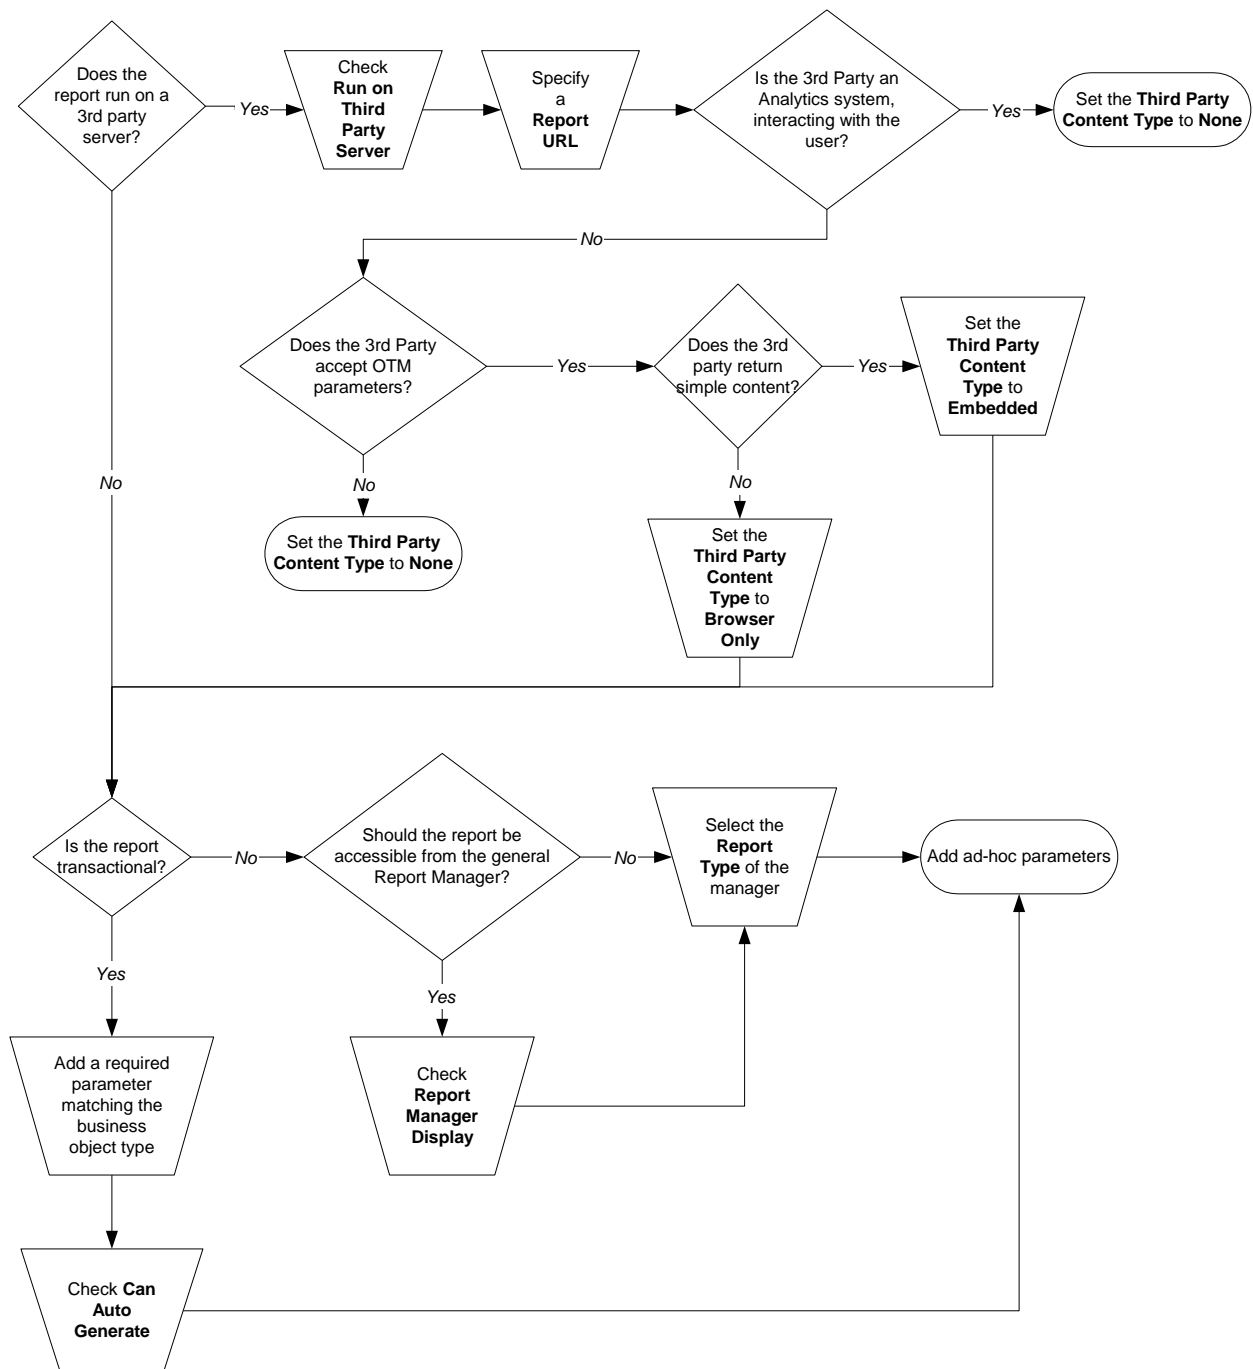

Figure 3: Report Classification
6. Follow the flowchart in Figure 3 to determine how the report should be accessed.